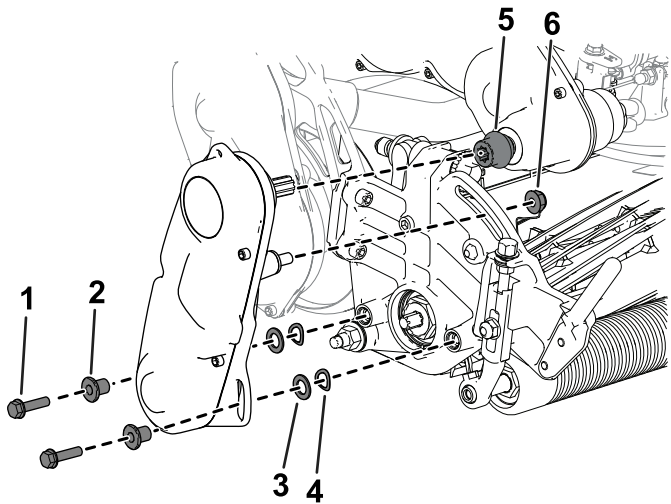

Figure 8
4. Install the coupler to the transmission driveshaft (Figure 8).
5. Use the previously removed hardware to install the reel-drive assembly to the cutting unit (Figure 8).
6. Ensure that the coupler (Figure 8) can easily move back-and-forth on the transmission driveshaft.